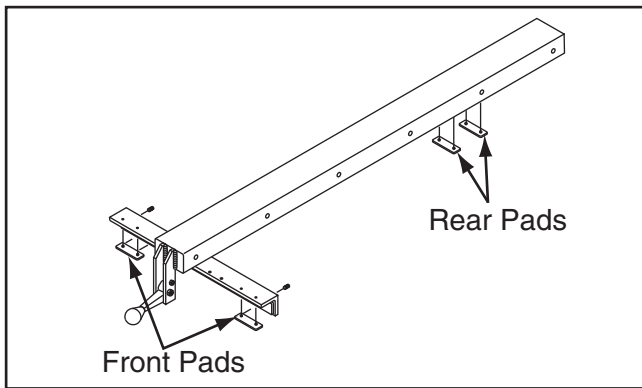

Figure 120. Fence pad locations.
3. Check the fence support pads. Over time the pads illustrated in **Figure 120** will wear. Replace them if they appear worn.